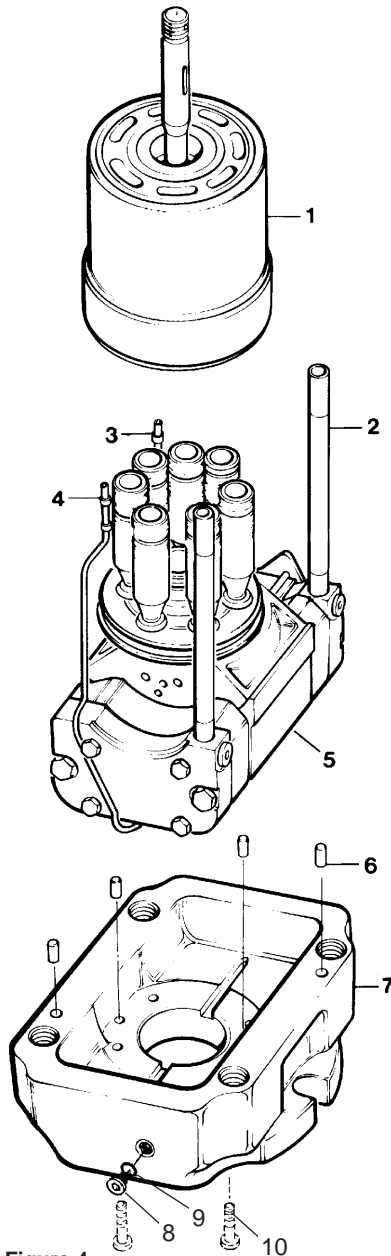

Figure 4
**See figure 4:** Insert tube line assemblies (3 and 4) in the holes provided in cradle. Note: Tube assemblies must be a snug fit into holes in cradle. Expand end of tubes with a pointed tool to assure fit.
**PARTS LIST FOR FIGURE 4**
Install gasket (3) over the two dowel pins (item 6 on figure 4) in the mounting flange.
Position the housing assembly (4) over the barrel and auxiliary shaft assembly and carefully guide the pressure tubes and tube lines (items 2, 3, and 4 on figure 4) through the housing assembly (4).
Slide the port block assembly and port plate over the end of the auxiliary shaft. Be certain that tubes 2, 3 and 4 shown on figure 4 are engaged and that the port plate (4) is still on the pins (3).